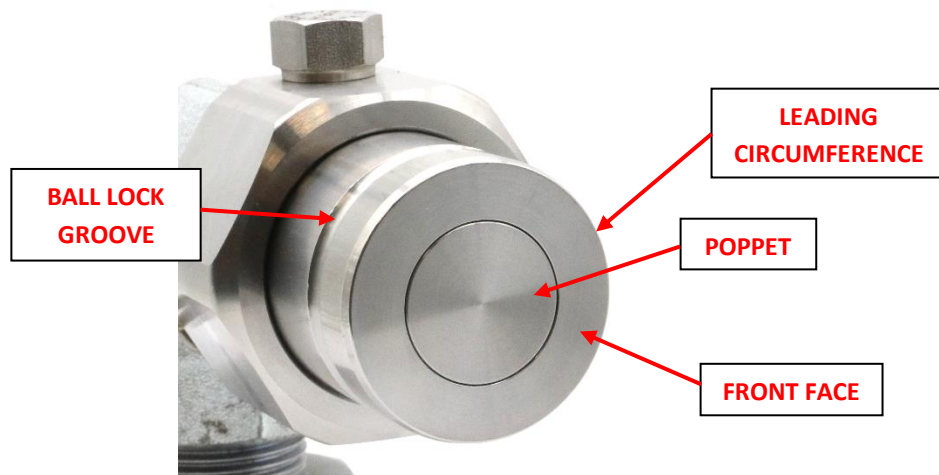
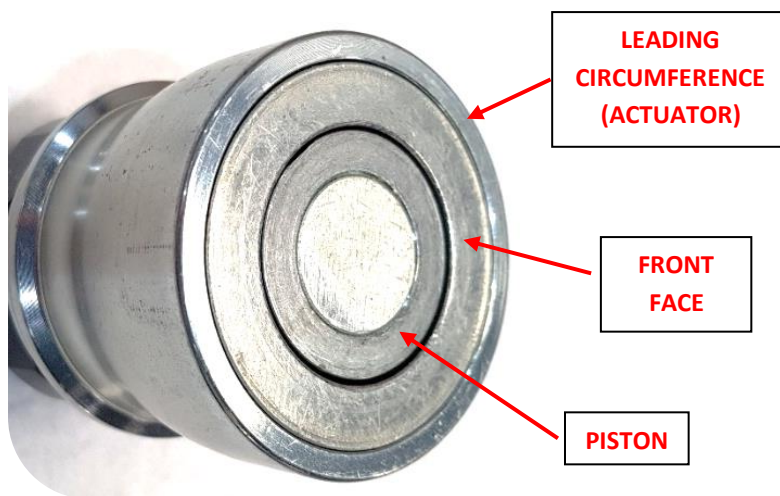

Figure 21 - Critical Areas of Damage on DEF Receivers
Figure 22 - Critical Areas of Damage on DEF Nozzles
- **Closely** inspect the front area of the DEF Receiver (Figure 21) and DEF Nozzle (Figure 22) for excessive wear or damage;
- **Closely** inspect the front area of the DEF **Nozzle** (refer Figure 22), for signs of damage or excessive wear & tear. Excessive wear or damage may cause problems connecting and disconnecting the couplers but will also introduce the risk of unintentional coupler disconnection – i.e. DEF Nozzle “fly off” – during pressurised liquid transfer. Promptly replace any faulty DEF couplers prior to their next required use or place the coupler(s) “Out of Service” until replacement.